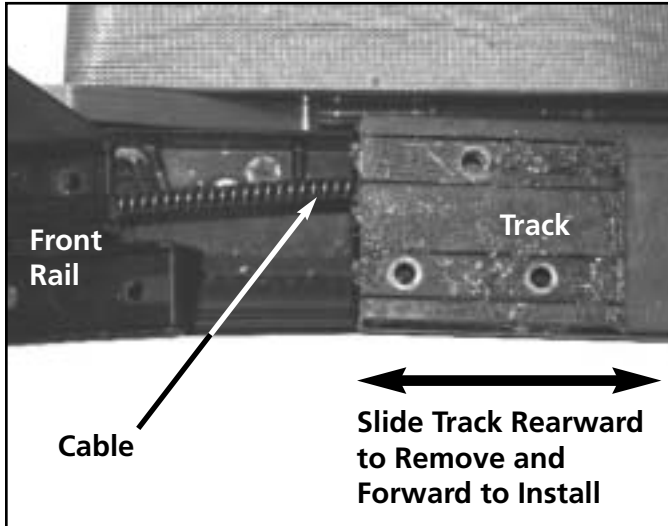

Figure S-74
See figures S-74 and S-75.
12. Insert the cables into the guide openings that the cables came out of and push the replacement rail assembly onto the tracks. See figures S-74 and S-75.